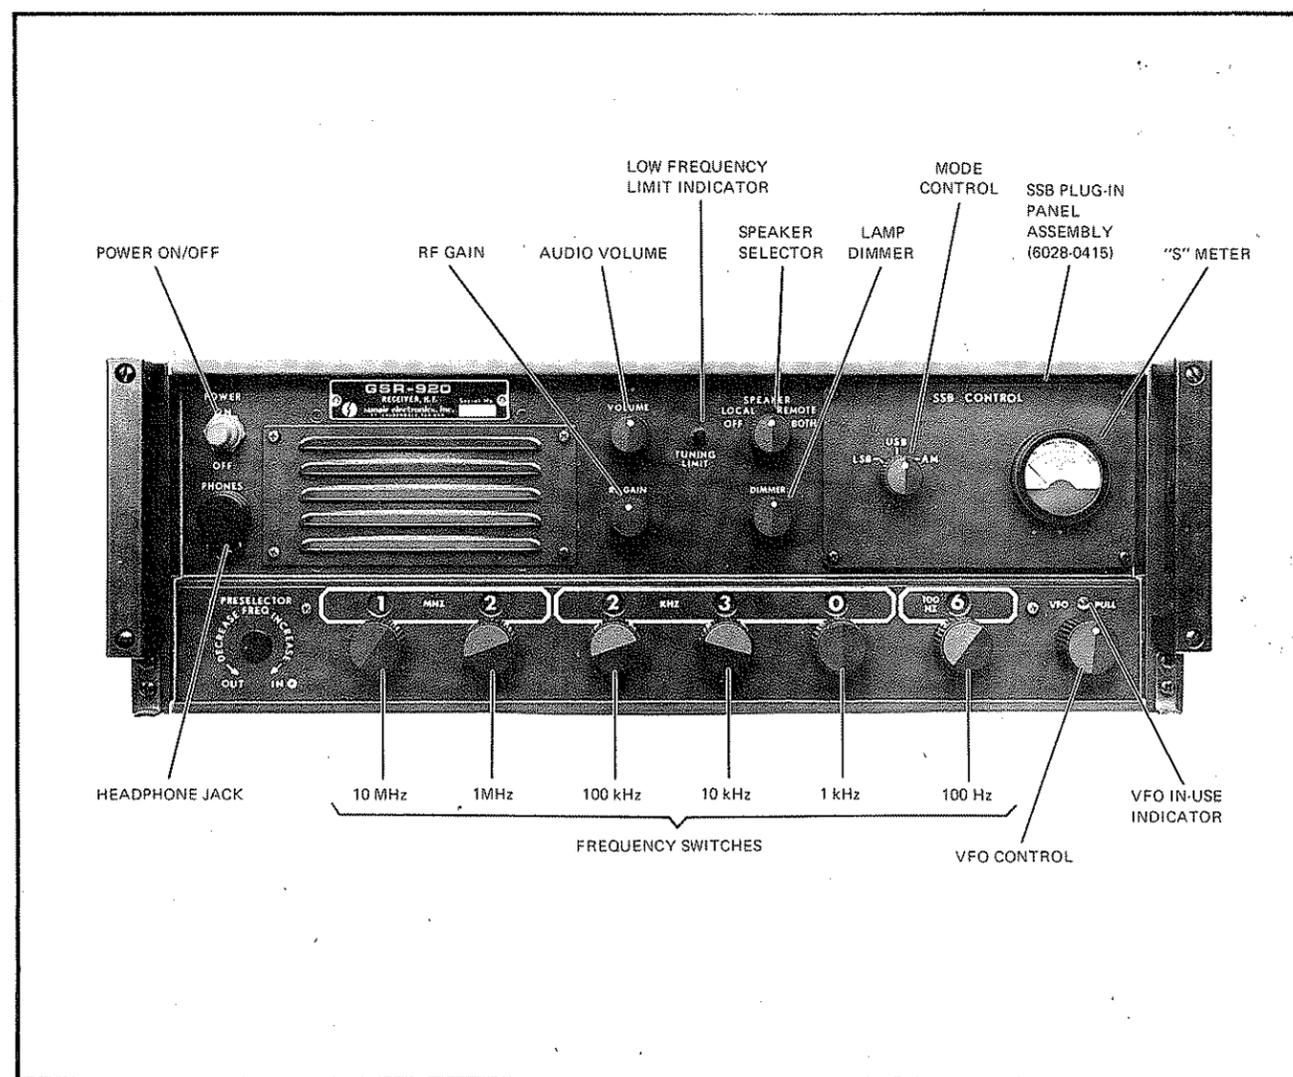
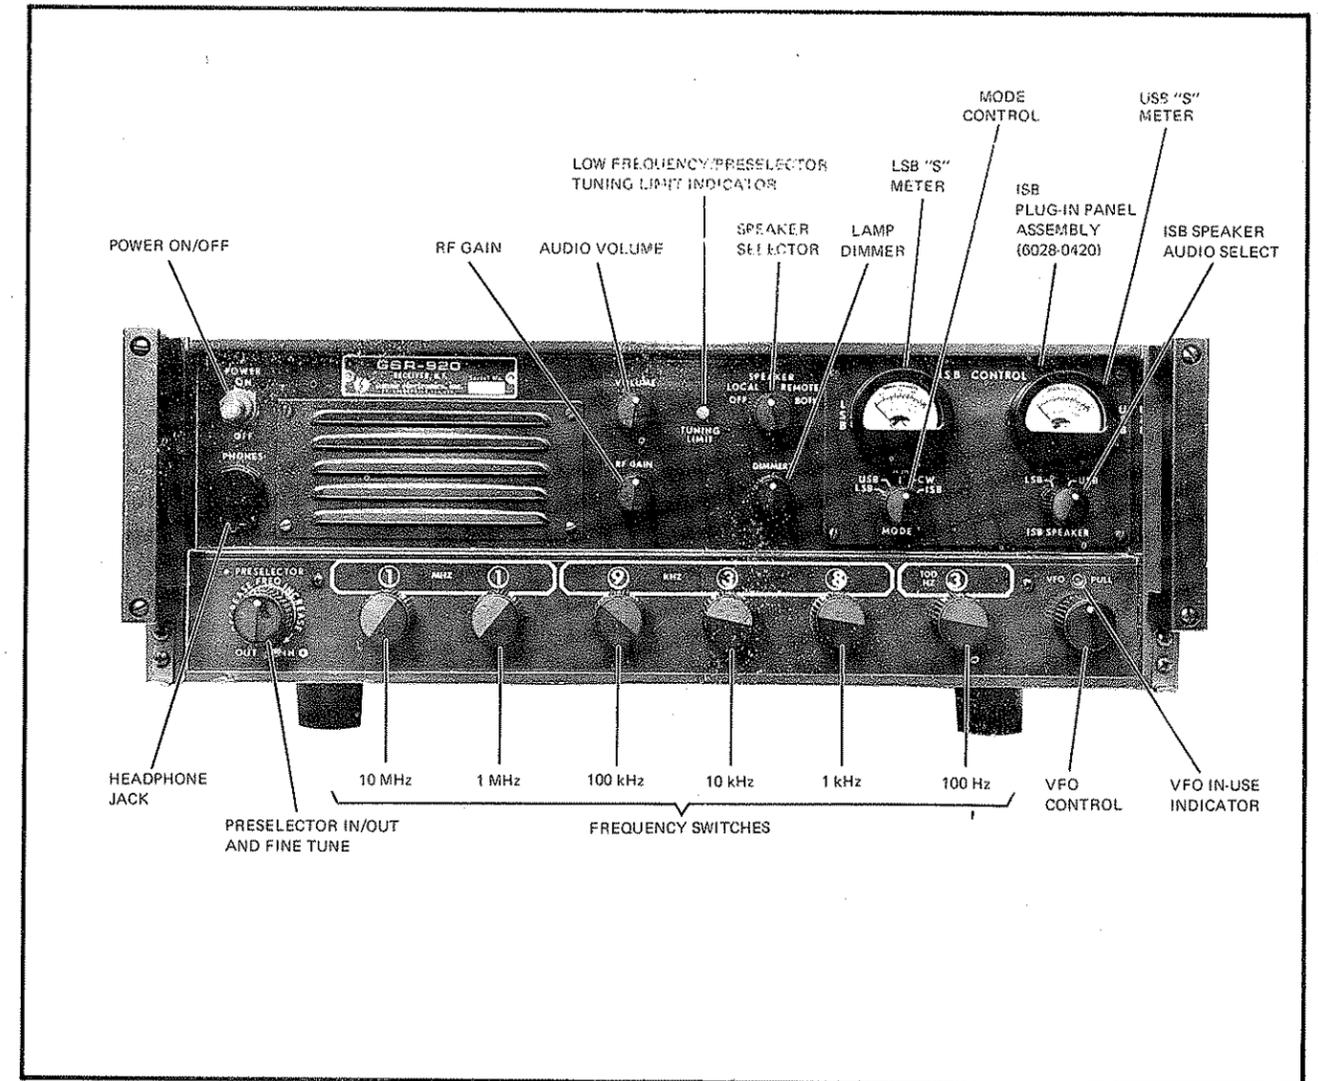

Figure 3.1 GSR-920 Receiver Front Panel, Standard
Figure 3.2 GSR-920 Receiver Front Panel, ISB Option
3.2.1 Listed below are descriptions of all controls, indicators and connectors located on the front panel of the GSR-920 Receiver. Figure 3.1 shows the standard receiver with the SSB control head. Figure 3.2 shows the receiver with its optional ISB control head.